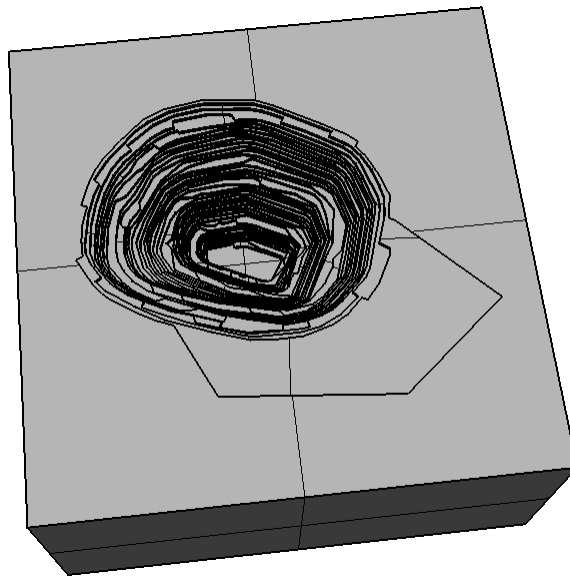

Figure 134: Rhino model of the entire pit.
35. **_Show** everything. **_SelCrv** and **_Delete** the selected curves. Select all remaining surfaces and polysurface and **_Join** them into a single polysurface. (Figure 134). Select **File|Save** and save the current model to file **Tut6D.3dm**.